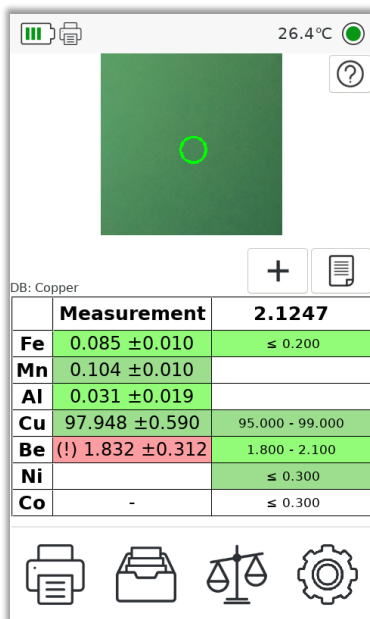

Figure 5 Beryllium measurement error in copper
- 4.2.17. The exclamation mark (!) indicates that the spectral line intensity is too high (Figure 5).